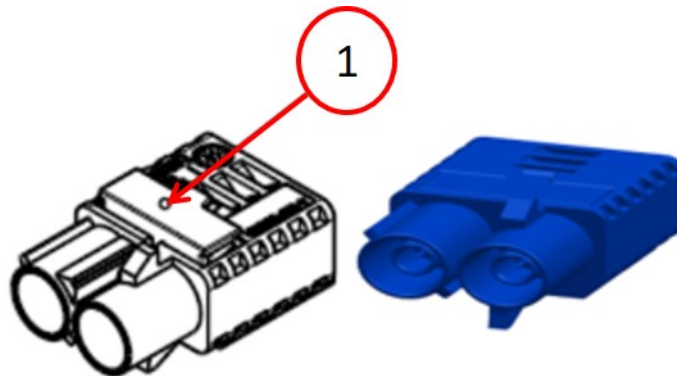

Fig. 2
3. Working with the Y342A (**Blue Connector**) wire and using a prying tool, remove the purple connector lock (Fig. 2) .